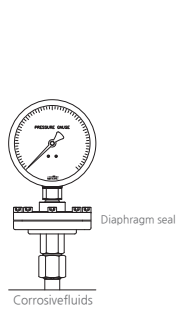

Figure 1
- 1) If the fluid contains any corrosive agents, it will directly deliver to the Bourdon Tube, and it could damage the tube. Therefore, it is recommended that the user chose "Diaphragm Seal Type" pressure gauge. (Figure 1)